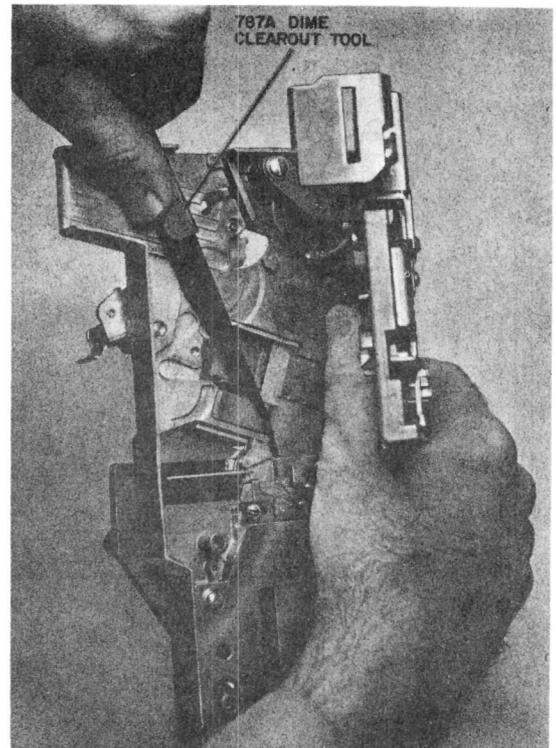

Fig. 34—Using a 787A Dime Clearout Tool in Chute
5.02 If trouble cannot be cleared using an orange stick, use a 787A tool (Fig. 34) as follows:
- (b) Swing upper plate assembly open per Fig. 34.